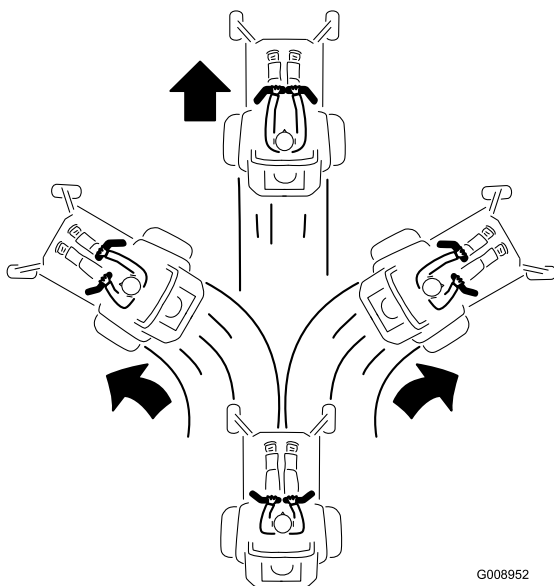

Figure 19
2. To go forward, slowly push the motion-control levers forward (Figure 19).